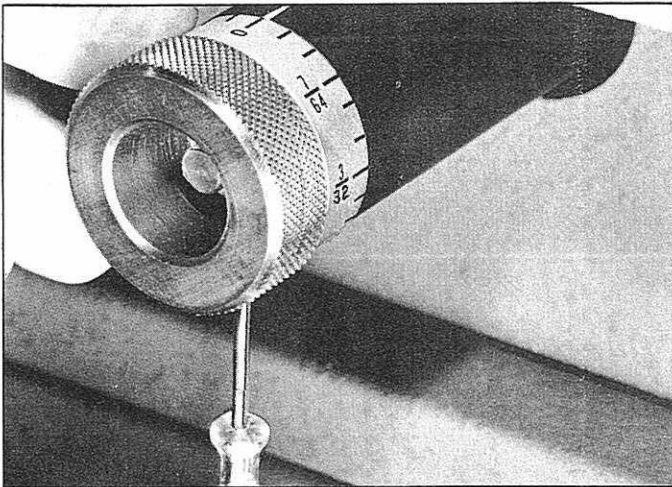

Fig. 10.
4. Loosen set screw in graduated collar, and rotate collar until '0' graduation coincides with witness mark on sleeve, as shown in Fig. 10.